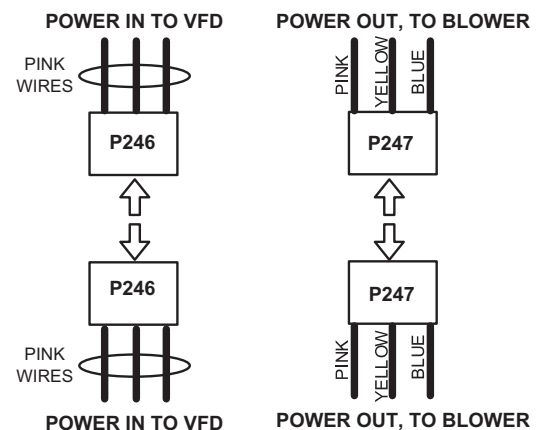

FIGURE 41
- 3 - Disconnect P246 from P246 (power in to VFD) and P247 from P247 (power out to blower). See FIGURE 41.